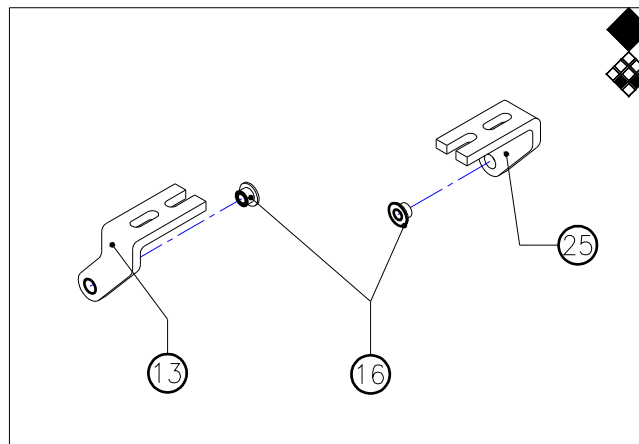

fig.3
1.1.3 Left and right hinge. (see fig.3)
1. Take Hinges 13 and 25 and push bearing 16 in the pivot holes with the flange of the bearing on the inside as shown in fig.3.